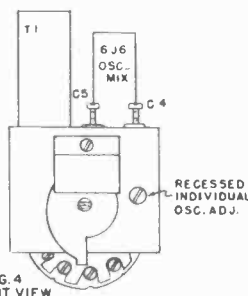

FIG. 4 FRONT VIEW
- c) Place a non-metallic screwdriver through the opening marked 'Recessed Individual Osc. Adjustment', fig. 4, and adjust oscillator coil for zero-beat with 24.75 mc marker on response curve.